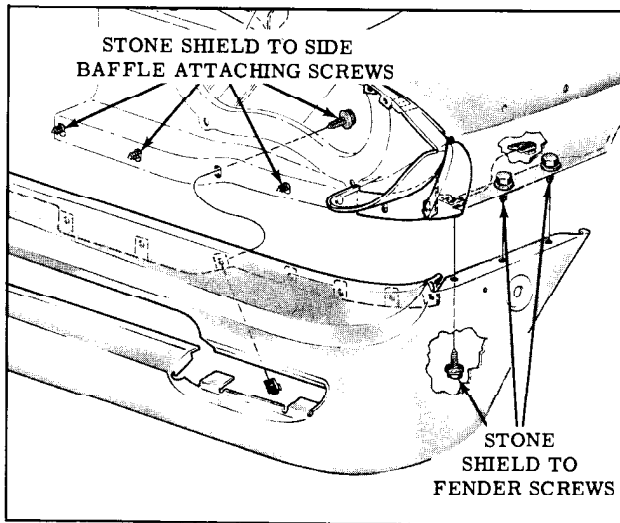

Fig. 11-8 Fender to Stoneshield
4. Remove the 3 fender to stone shield side attaching screws. (Fig. 11-8)
5. Remove the 7 stone shield to side baffle attaching screws. (Fig. 11-8)
2. Remove the 3 fender to stone shield side attaching screws. (Fig. 11-8)
3. Remove the 7 stone shield to side baffle attaching screws. (Fig. 11-8)
2. Remove 20 (10 on each side) stone shield to side baffle and fender screws as shown in Fig. 11-8.